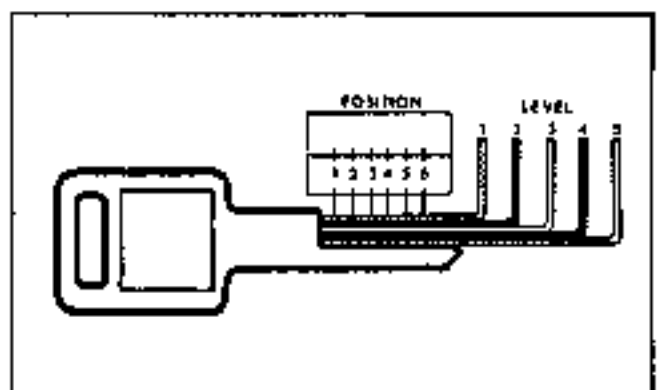

Fig. O-14 Key Coding Diagram
1. Place the key on the silhouette in Fig. O-14, aligning the key with the outline as accurately as possible.